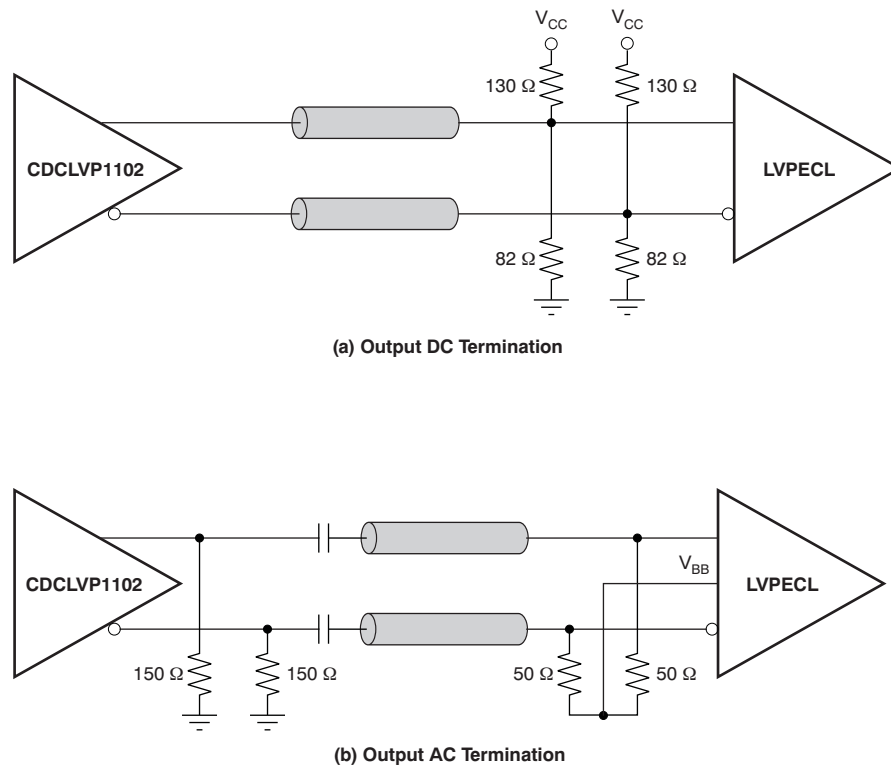

Figure 13. LVPECL Output DC and AC Termination for  $V_{CC} = 3.3\text{ V}$
The CDCLVP1102 is an open emitter for LVPECL outputs. Therefore, proper biasing and termination are required to ensure correct operation of the device and to minimize signal integrity. The proper termination for LVPECL outputs is  $50\ \Omega$  to  $(V_{CC} - 2)$  V, but this DC voltage is not readily available on PCB. Therefore, a Thevenin equivalent circuit is worked out for the LVPECL termination in both direct-coupled (DC) and AC coupled configurations. These configurations are shown in Figure 12 for  $V_{CC} = 2.5$  V and Figure 13 for  $V_{CC} = 3.3$  V, respectively. It is recommended to place all resistive components close to either the driver end or the receiver end. If the supply voltage for the driver and receiver is different, AC coupling is required.